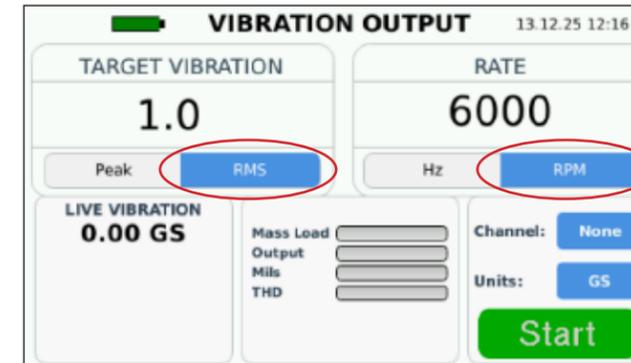
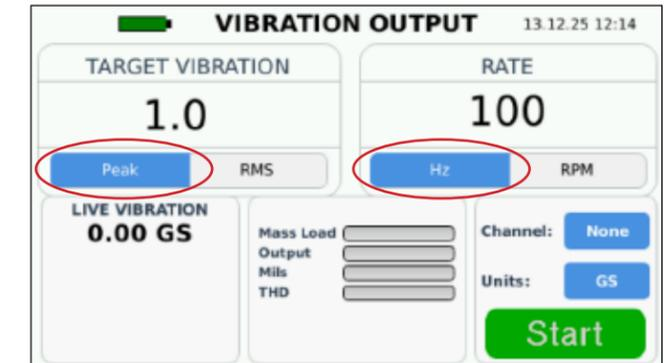

Figure 13
Figure 14
- c. Adjust the units shown onscreen as needed (Figure 13 and Figure 14):